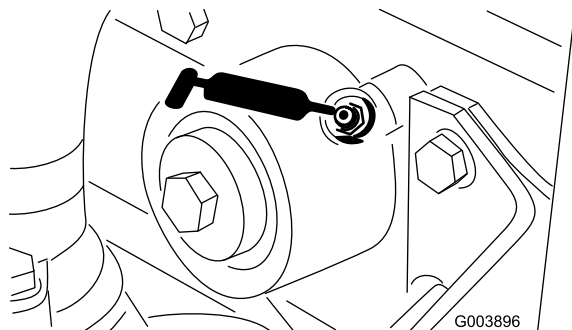

Figure 49
- 1 fitting on the fan shaft (Figure 49).